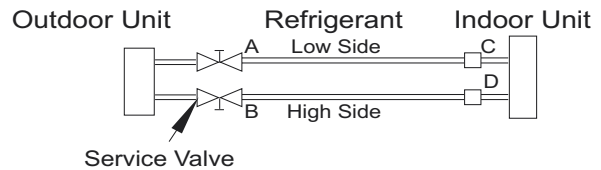

Fig. 39 —Service Valve
1. Completely tighten flare nuts A, B, C, D, connect the manifold gage charge hose to a charge port of the low side service valve (see Fig. 39).